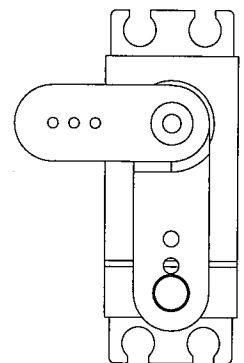

Figure 83B
Step 13. Attach the throttle servo horn (168) as shown in figure 83B. Make sure that the throttle pivot (169) is facing the correct direction as shown. Secure the throttle servo horn (168) with the screw supplied with your servo.